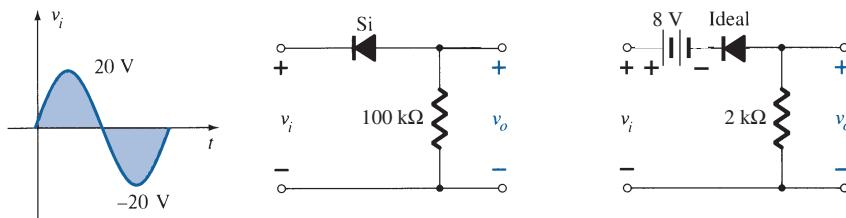

FIG. 176
32. Determine v_o for each network of Fig. 176 for the input shown.